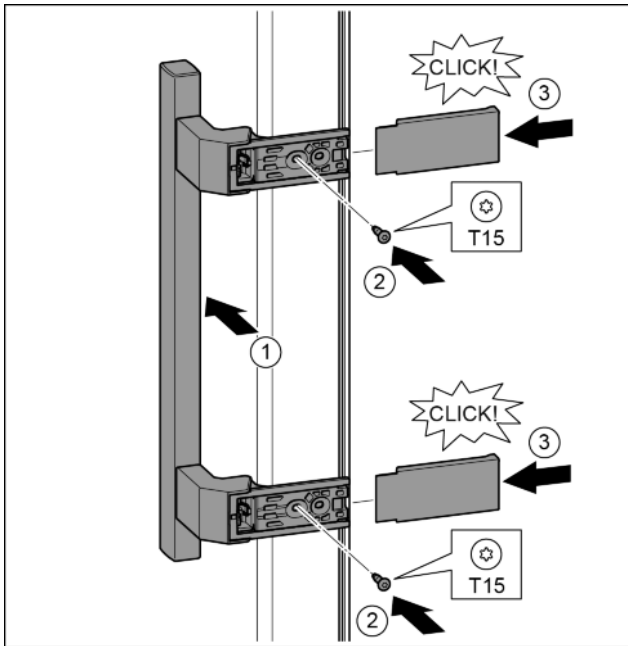

Fig. 18
- ▶ Position the handle on the other side. Fig. 18 (1)
- ▶ Tighten the screws with the T15 screwdriver. Fig. 18 (2)
- ▶ Position the covers on the side and push in. Fig. 18 (3)